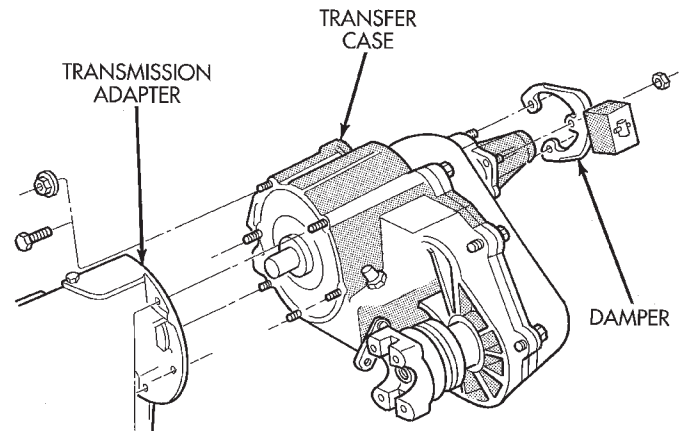

Fig. 8 Transfer Case Mounting
- (1) Mount transfer case on a transmission jack. Secure transfer case to jack with chains.
- (2) Position transfer case under vehicle.
(3) Align transfer case and transmission shafts and install transfer case on transmission.
(4) Install and tighten transfer case attaching nuts to 35 N·m (26 ft. lbs.) torque.
(5) Install damper on rear retainer (Fig. 8). Tighten damper attaching nuts to 54 N·m (40 ft. lbs.) torque.